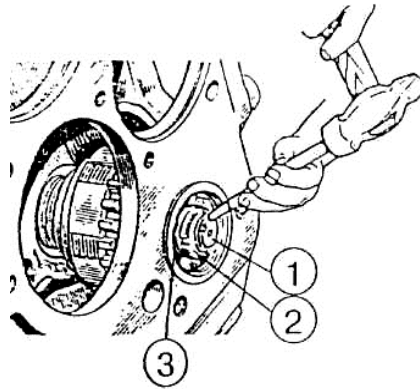

Figure 5.4
2) unstake corbel of nut (2) (figure 5.4), fix shaft (1) to prevent rotation, unscrew nut (2) and remove locking washer 3;